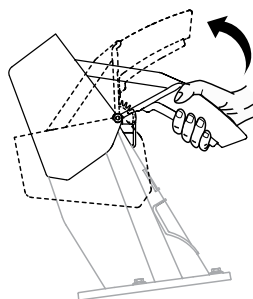

Fig. 11B
1. To increase the distance that the snow is thrown, squeeze the trigger on the chute-deflector handle, and then raise the chute deflector. Release the trigger on the chute deflector handle to lock the chute deflector in place. (1, 2, Fig. 11B)